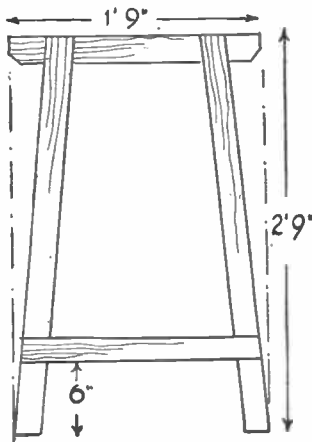
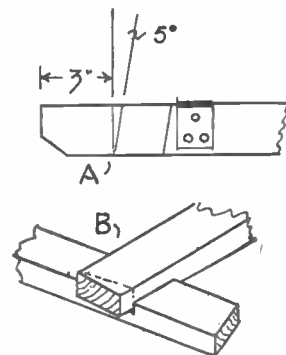

Fig. 2
Fig. 3
A pair of light, but strong trestles will be needed. A view of one is given in Fig. 2, showing one of the two frames required to make each trestle. Timber of  $\frac{3}{4}$  in. by 2ins. section will serve for construction. Cut the top horizontal bars to length, and at 3ins. in from each end, mark the grooves to be cut out for the legs. These grooves are cut out to half the thickness of wood employed, and it will be noted at a slope of 5 degrees inwards from the vertical, as at (A) in Fig. 3.